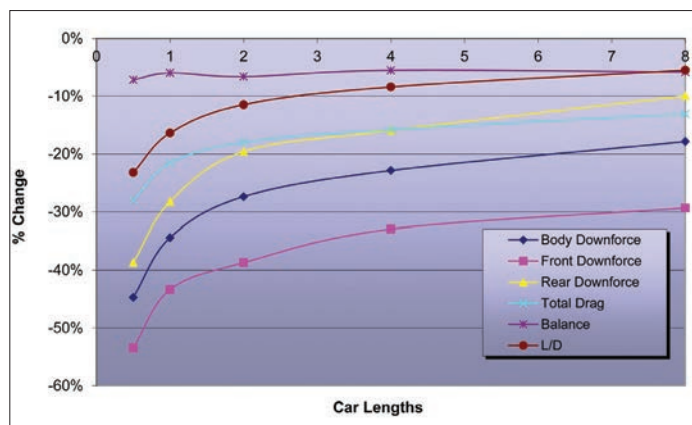

Figure 12: The changes to the aerodynamic numbers on the BAR Honda 002 (as featured in *Racecar* in 2004) following the car at a range of fore-aft separations
**Figure 11** shows the changes to each of the main aerodynamic metrics at a range of longitudinal car separations from half a car's length to eight car lengths, and **Figure 12** is from
Figure 11: The changes to the aerodynamic numbers on our 2013 following car. At first glance the results seem broadly similar to our BAR 002 study (see Figure 12, right)